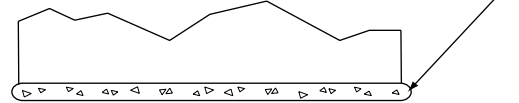

Fig. 1 Sealing Cabinet with RTV
- a) the cabinet must be sealed to the floor with an NSF listed silicon RTV applied around the entire periphery of the cabinet (see fig.1)
- a) the cabinet must be sealed to the countertop or shelf with an NSF listed silicon RTV applied around the entire periphery of the cabinet. (see fig.1)